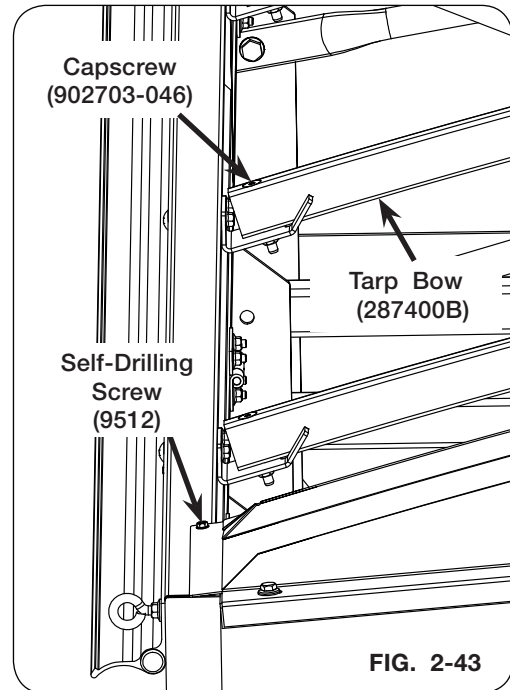

FIG. 2-43
**NOTE:** Ensure capscrew head (902703-046) is flush with the top of bow weldment (287400B). (FIG. 2-43)
6. Retain right-hand end cap plates to right-hand sideboards by using one 1/4"-14 x 1" self-drilling screw (9512) for the front and rear of the cart. (FIG. 2-43)